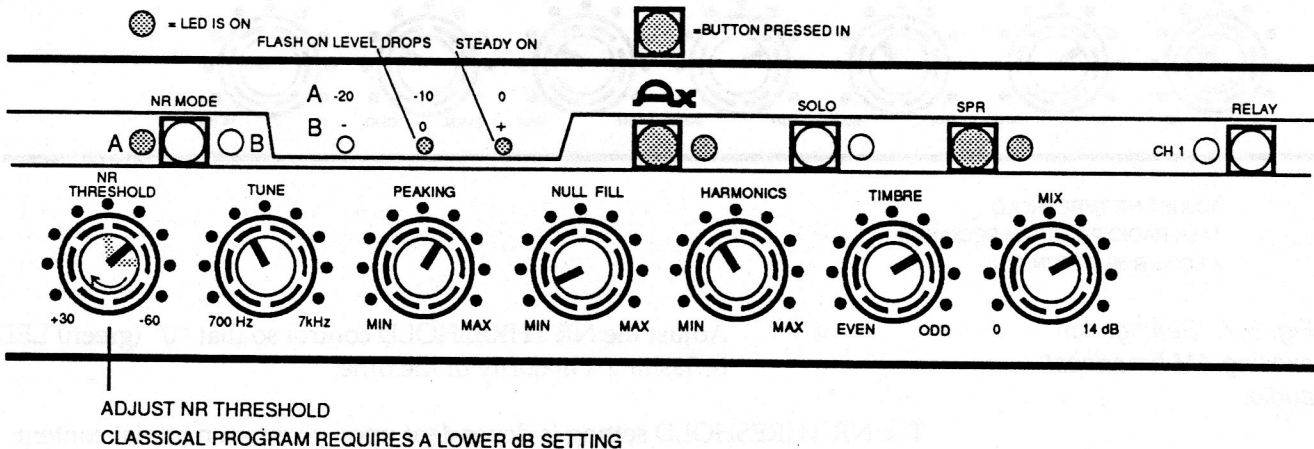

Fig. 5-6. Settings for exciting FM audio (television or radio) broadcast.
3. Set remaining controls to match the settings shown in Fig. 5-6.